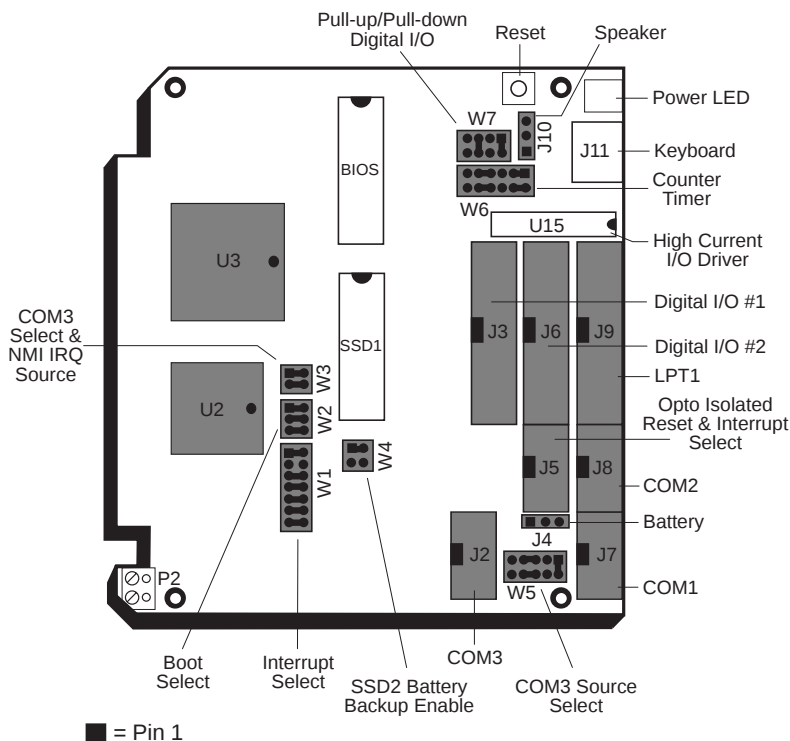

Figure 2-1 – 4020 Component Diagram
Figure 2-1 provides a component diagram of the 4020. Refer to it as needed.
1. Refer to Figure 2-1 for the location of various connectors before installing the 4020 Control Card.